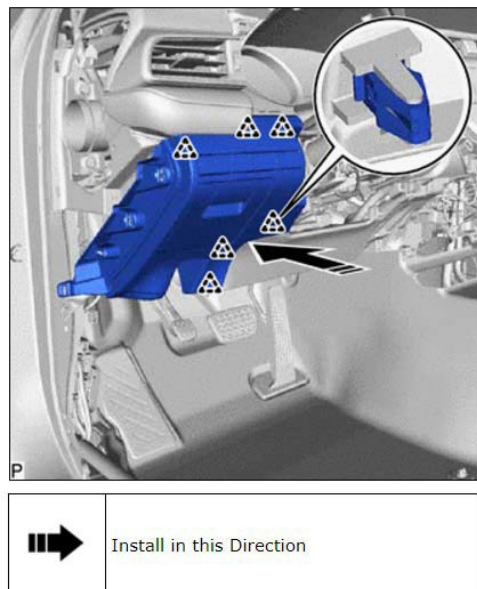

Figure 41
- (c) Engage the 6 clips to install the No. 1 instrument panel sub-assembly as shown in Figure 41.